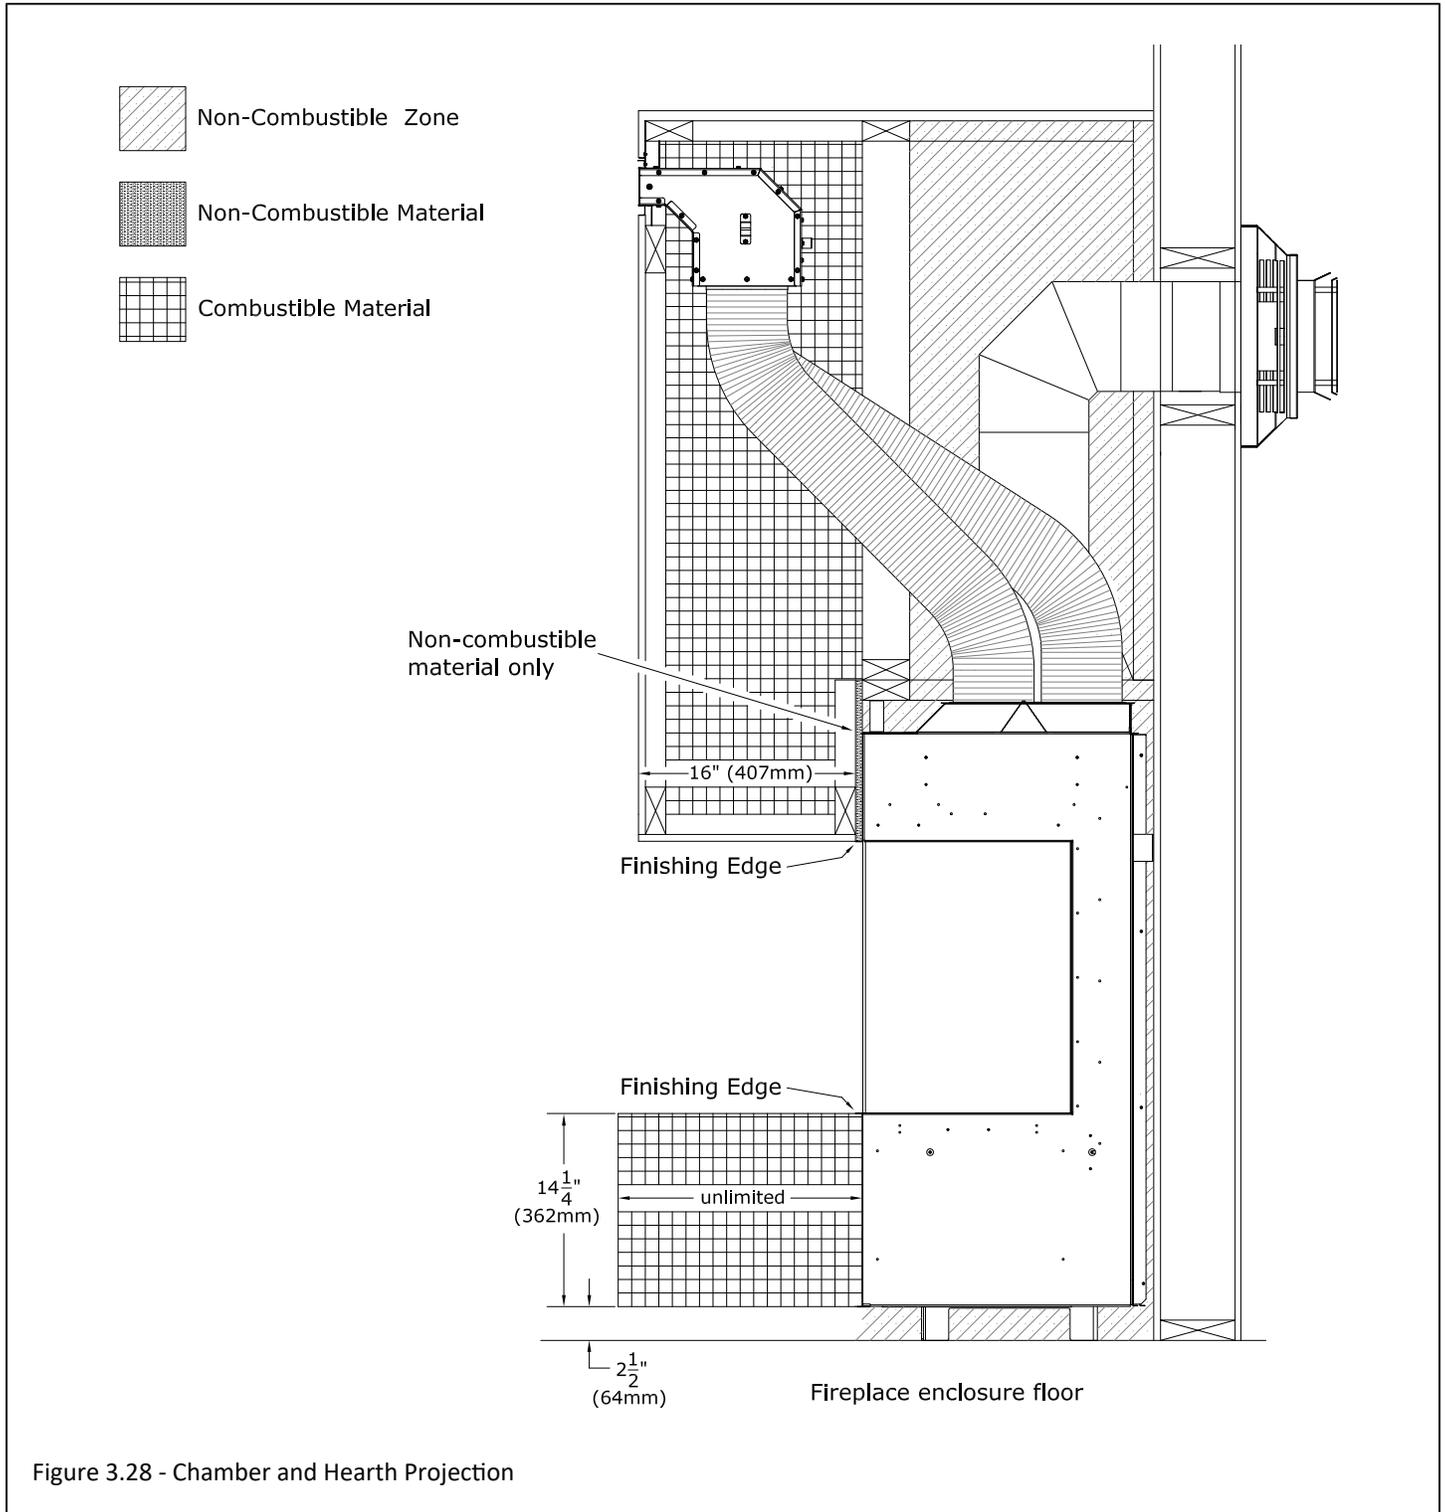

Figure 3.28 - Chamber and Hearth Projection
- **Combustible Chamber Projections:** A maximum of a 16" (406mm) chamber projection can be installed flush at the side and top finishing edge of the fireplace. See Figure 3.28.
Figure 3.28 shows the KZK installed in a 16" front chamber projection. The 16" non-combustible projection would also apply to any side chamber projection.